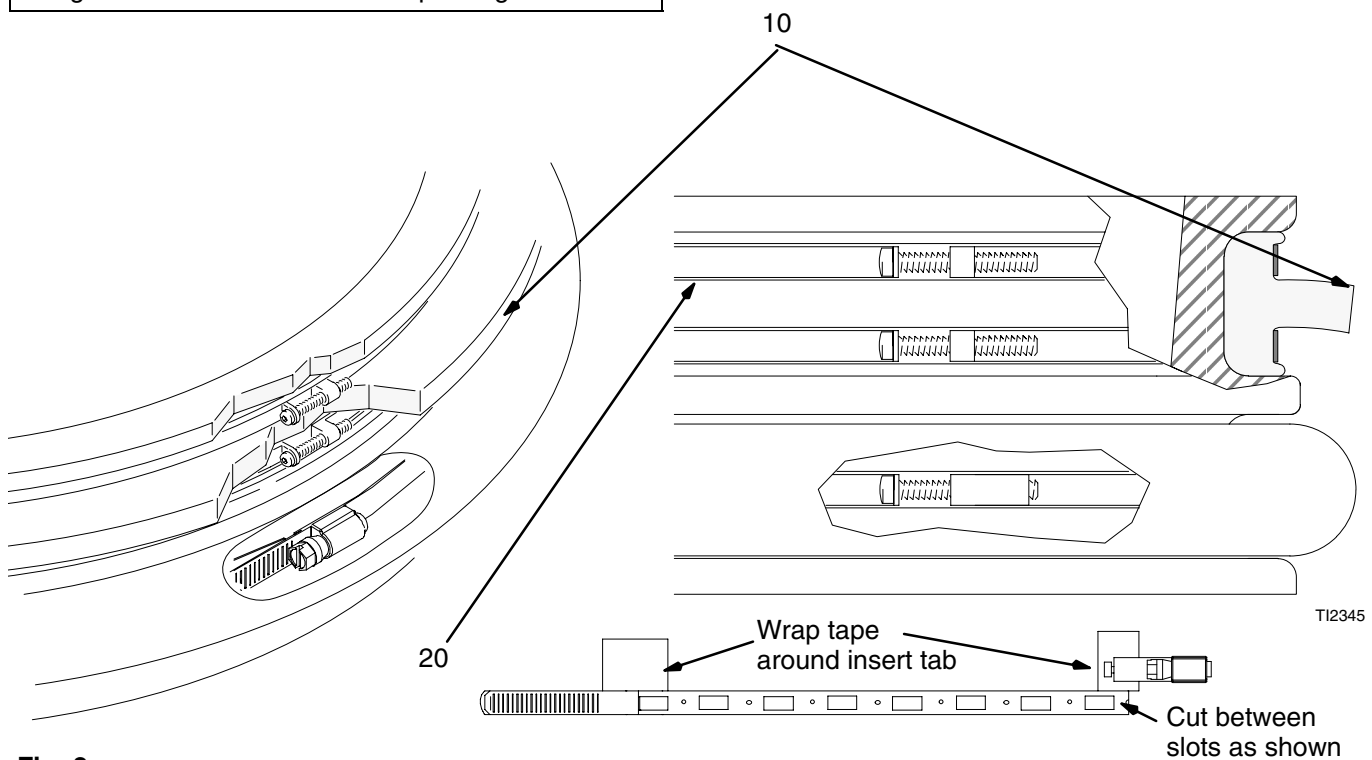

Fig. 2
1. Pull the tee wiper over the platen assembly. Roll the tee wiper ring (10) down to the top ring groove as shown in Fig. 2.
2. Install the first upper band (20) over the wiper ring, placing it in the top groove of the wiper.
6. Assemble and cut band as shown in Fig. 2.